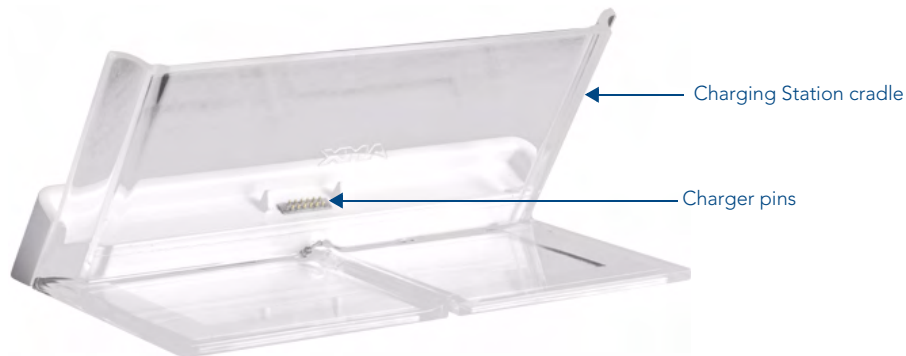

FIG. 7 MVP-TCS-52-GW Table Charging Station - Rear
4. Place the touch panel in the Charging Station cradle (FIG. 6), guiding it into place with the locking grooves on each side of the cradle (FIG. 7). When fully seated, the touch panel's charging station connector should be in contact with the Charging Station's charger pins.
To recharge the MVP-5200i, slide the device into the Table Charging Station cradle bottom-first and make sure the device is fully seated in the Charging Station. The charger pins in the bottom of the cradle (FIG. 7) must be in contact with the connector on the bottom of the MVP-5200i for it to start recharging. The MVP panel will stop recharging automatically once the battery has achieved its maximum charge.